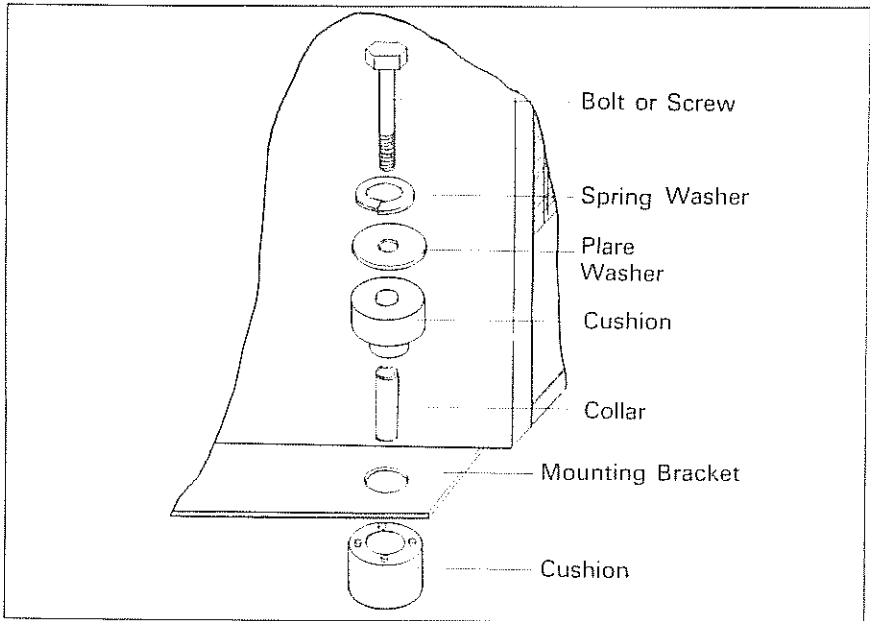

Fig.6
2. The compressor/condenser case can be easily mounted to the floor mounting brackets and by use of supplied screws or bolts, cushions, collars, plane washers and spring lock washers. (Fig. 6) Place unit to insure accessibility and good circulation (see paragraph on location).